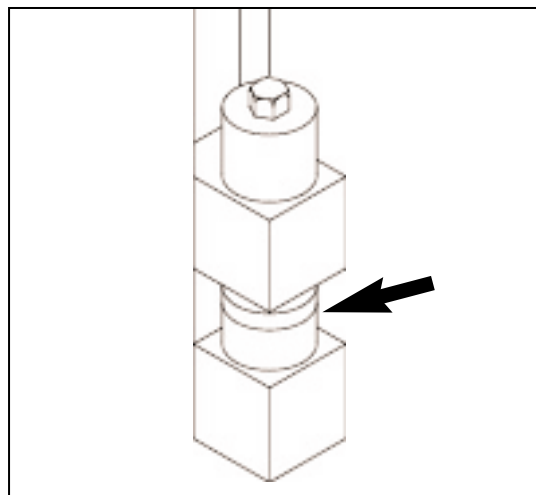

Figure 4.26 2 1/4" [57mm] OF SPACERS.
- e. Store spacers on bottom side of bolt for front bolts and left hand rear bolt. For right hand rear bolt store spacers on top. Tighten bolts at all 4 corners that secure mold throat plate spacers (see figure 4.26).